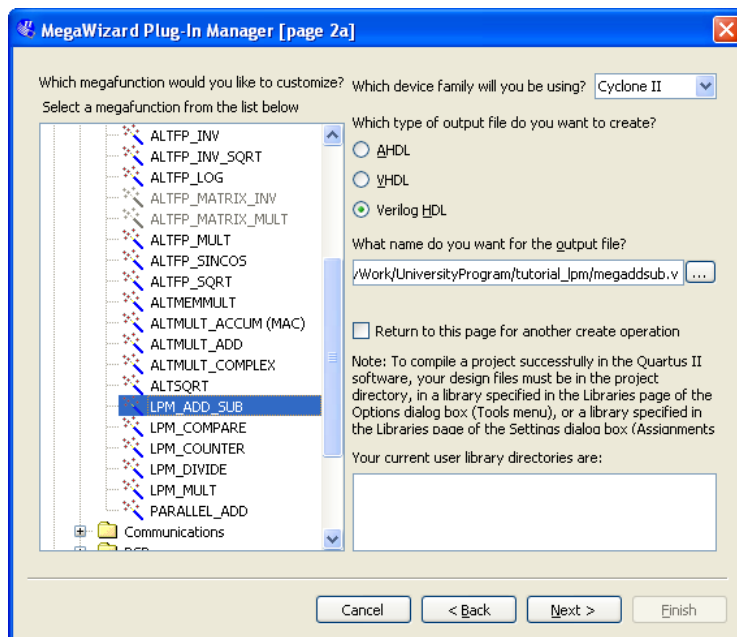

Figure 5. Choose an LPM from the available library.
3. The box in Figure 5 provides a list of the available LPMs. Expand the “arithmetic” sublist and select